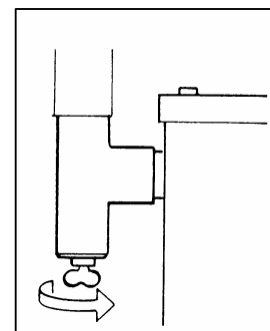

Figure 4
- Install a water trap for boilers bigger than B17, to trap possible water caused by condensation. (figure 4)